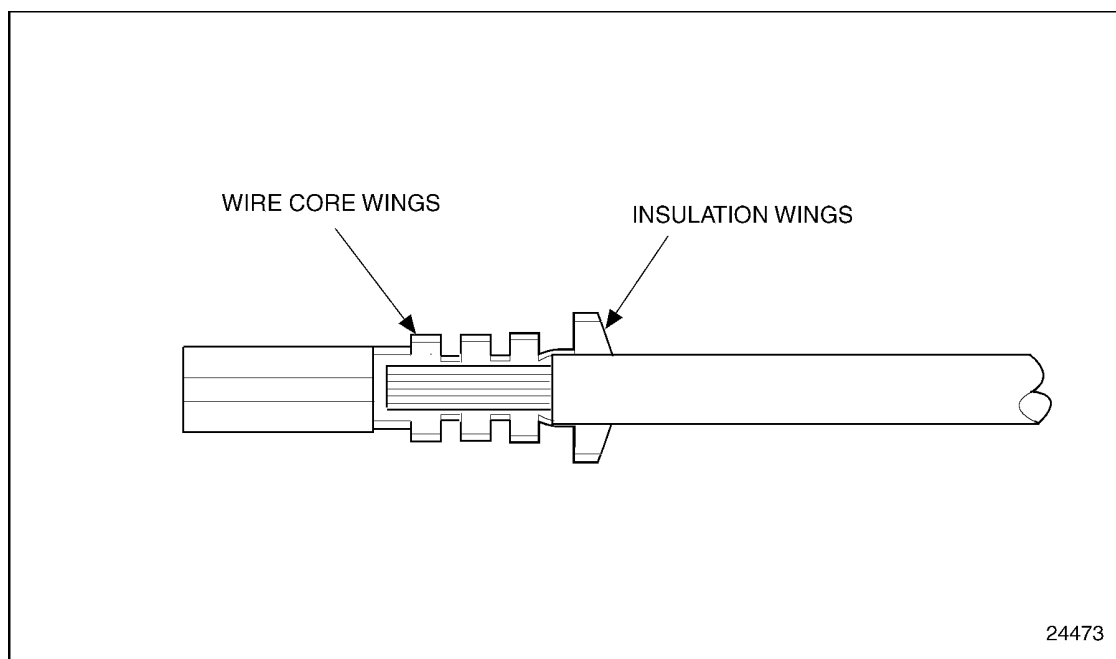

Figure 8-25 Cable to Terminal Alignment
3. Insert the cable into the terminal until the stripped portion is positioned in the cable core wings, and the insulated portion of the cable is in the insulation wings. See Figure 8-25.